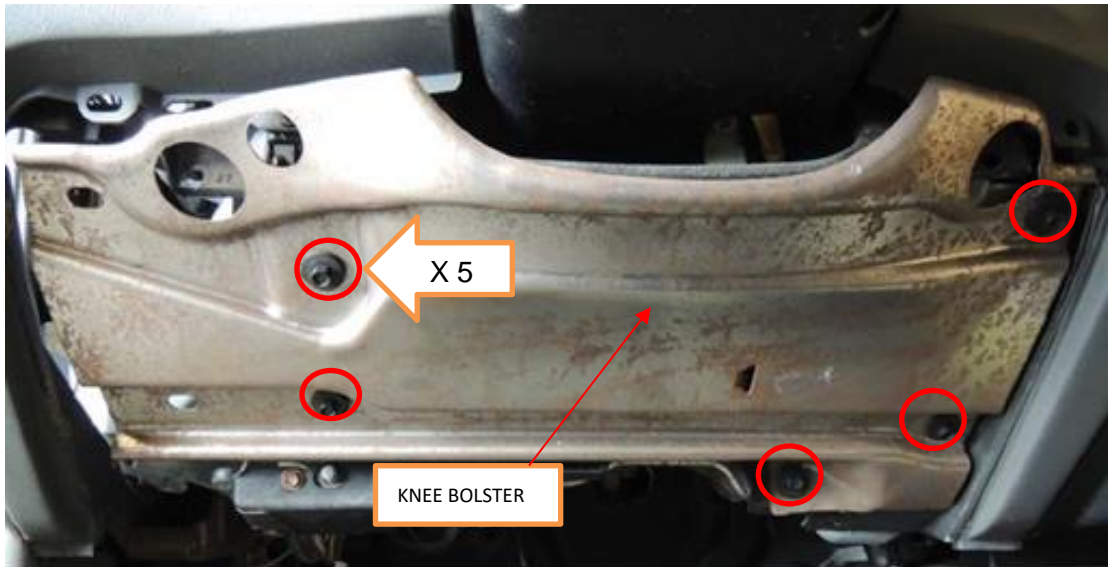

FIGURE 7
5. Remove the five retainers and the steering column opening knee bolster. See Figure 7.